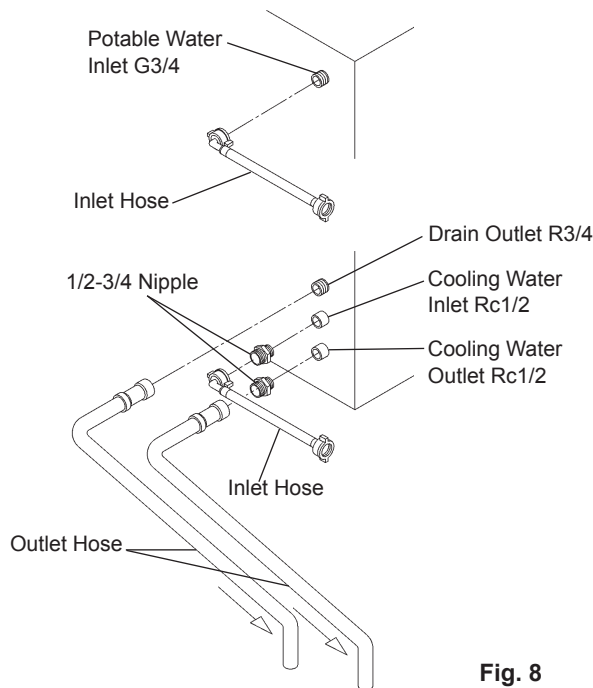

Fig. 8
[b] Connections according to regulations other than WRC by utilising accessory hoses (Fig. 8)
- 2) For Condenser connections, use supplied accessory hoses and make the same connections as 1) to 3) in [a] above to the free ends of 1/2-3/4 nipples as indicated (Fig. 8).